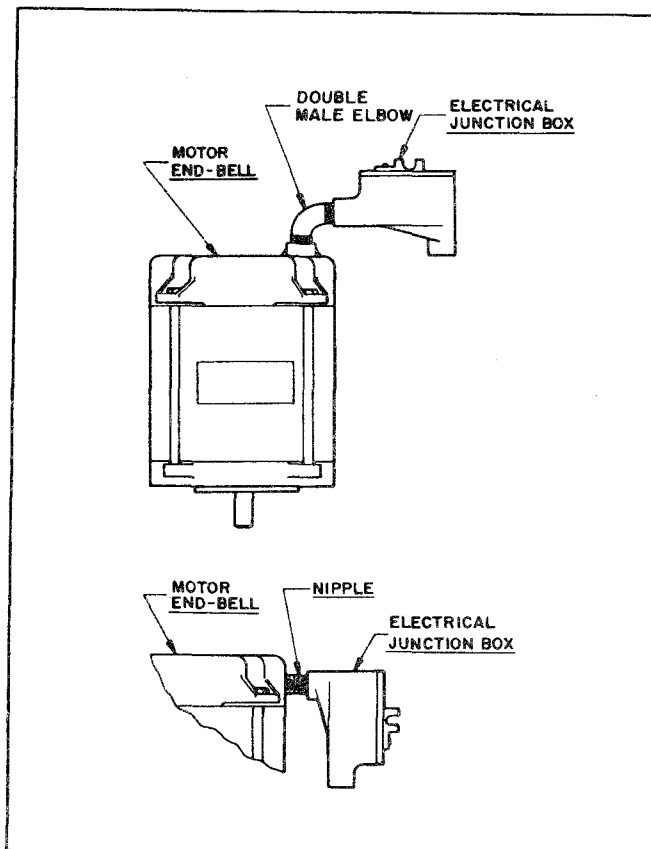

Figure 4. Junction Box and Connecting Nipple
A. Explosion Proof Motors (Figure 4): The following safety requirements are required when installing and using Explosion Proof Motors:
2. Installation of electrical junction boxes on the motor is extremely important to the electrical integrity of the motor and the electrical wiring system. When installed, the junction box and the nipple connecting the box to the motor should not show any sign of movement. Refer to Figure 4. If there is any movement, DO NOT PUT INTO SERVICE until corrected. USE COULD RESULT IN A SEVERE SHOCK HAZARD.